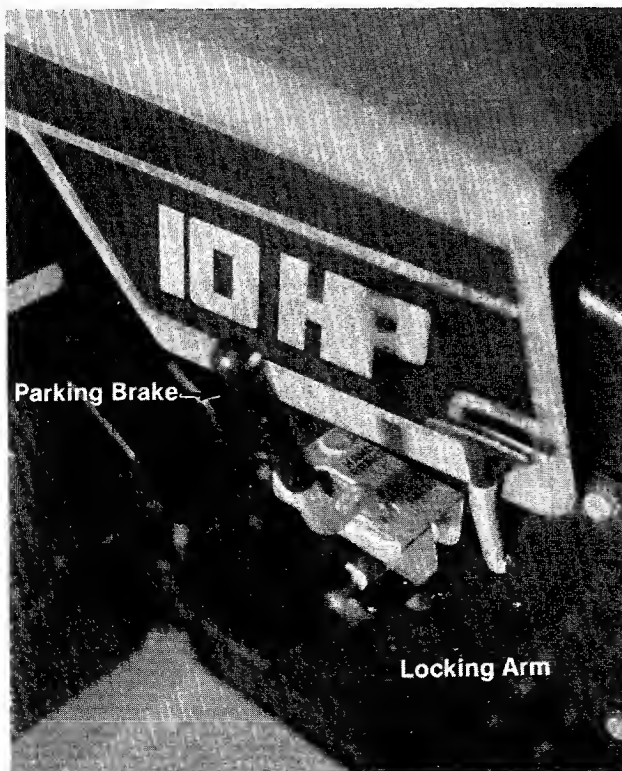

FIGURE 14
**c. Parking Brake.** To set the parking brake, pull the parking brake lever back and hold it in the locked position while moving the locking arm to the left. See figure 14.